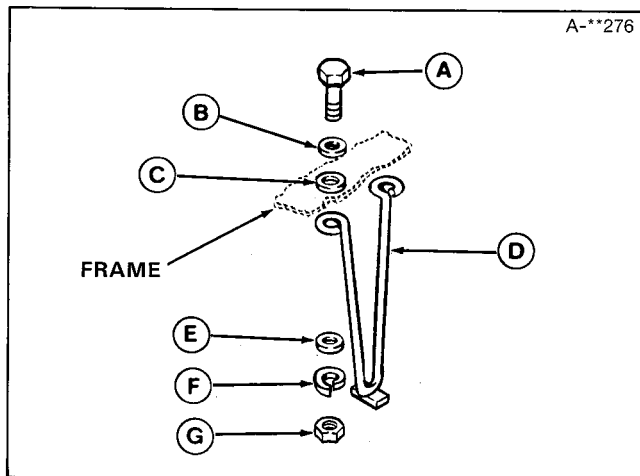
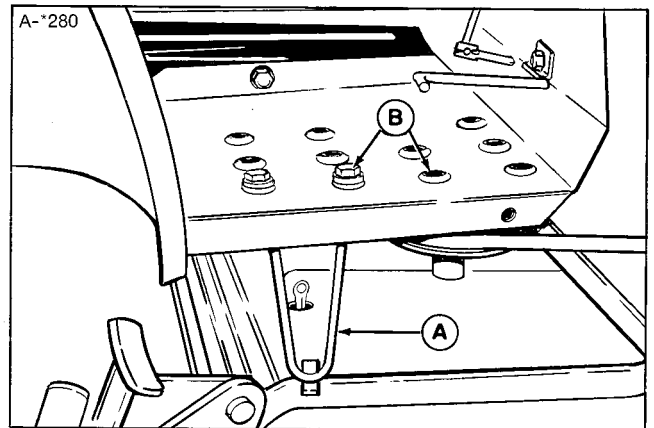

Figure 6. Upstop Brackets
Figure 7. Upstop Brackets
12. Using the rear holes in each footrest, install the upstops (D, figure 6) as shown. See figure 7 to check installation. Notice for tractors with agricultural tires, different holes (B, figure 7) are used.